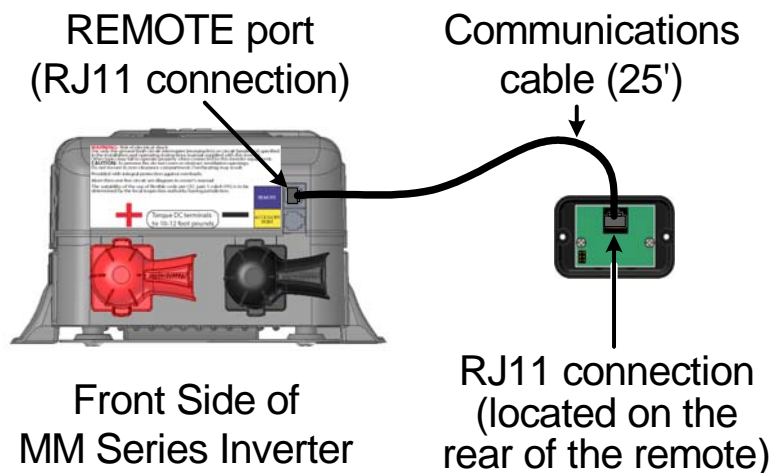

Figure 2, Communications Cable Connections
1. Cut an opening in a wall, see figure 2 to determine the correct opening dimensions. DO NOT cut the opening too big - to ensure there are no cracks around the display and that there is enough material for the screws to secure the display. Remove any wall insulation (if applicable) that may contact the back of the remote.
3. Connect the communications cable to the RJ11 jack at the rear of the remote control (see figure 2).